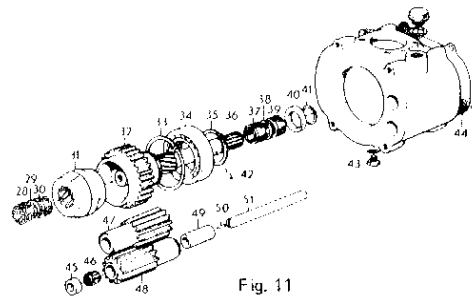

Fig. 11
1. Fit the circlip (33, Fig. 11) in the housing.
2. Press the bearing (34) into the housing with drift 884500.
4. Press the gear wheel (32) in the bearing (34) with drift 884263. NOTE! Counterhold 884488 must be placed against the bearing inner race. Make sure that the gear wheel teeth engage with the teeth on the planetary gears.
5. Secure the gear wheel with the lock ring (35).
Assembling the front housing and intermediate housing MS (Fig. 11 and 13)